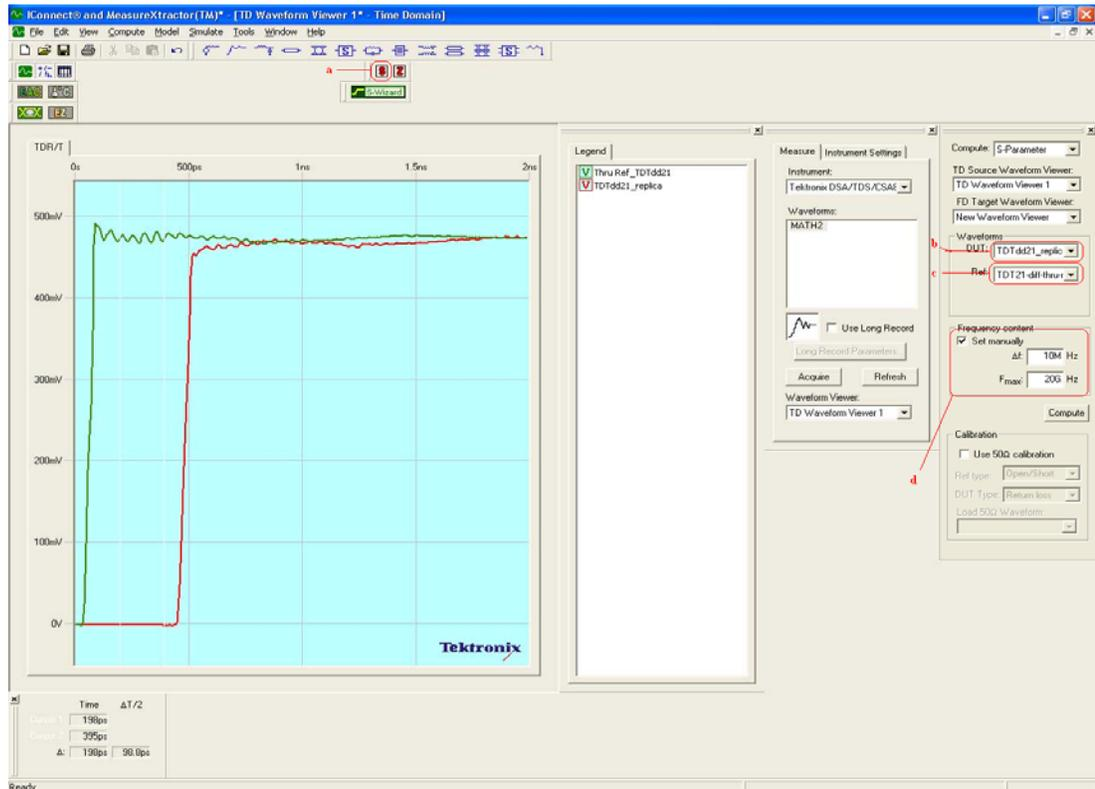

Figure 9
- a. In IConnect select the  button on the tool bar (Figure 9)